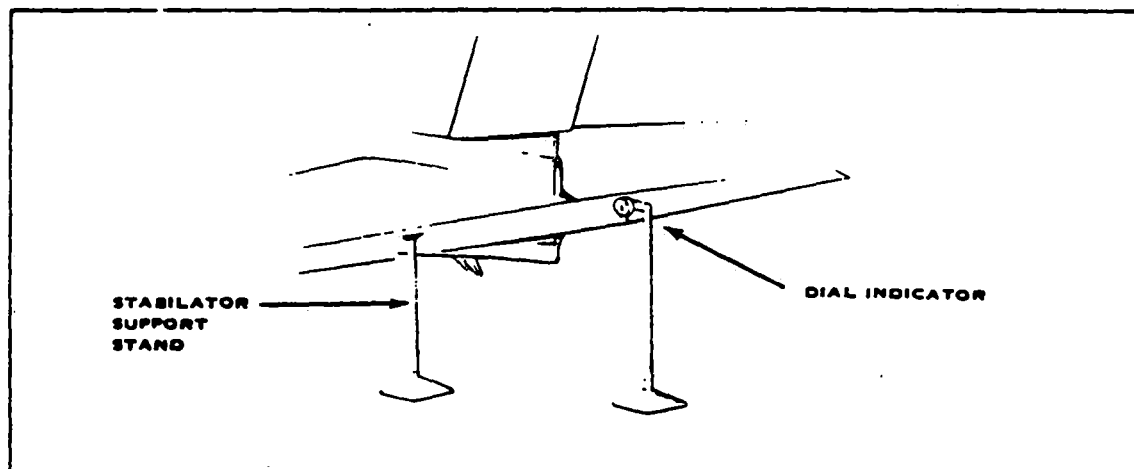

Figure 4-10a. Checking Stabilator Free Play
b. **Stabilator Trim Tab:** Set the stabilator trim tab in neutral position. This neutral position is determined with the airplane properly rigged per instructions given in this section of the service manual; the control wheel positioned 7.88 inches from the instrument panel, and the trim indicator at its neutral position. Obtain a straightedge long enough to extend from the ground up to a few inches above the trim tab trailing edge. Place the straightedge next to the trim tab inboard (center) trailing edge, and grasping the tab, gently move it up and down, mark the limits of tab free play on the straightedge. The overall travel (free play) must not exceed .076 of an inch. The use of a dial indicator and fixed stand is recommended, refer to Figure 4-10a.